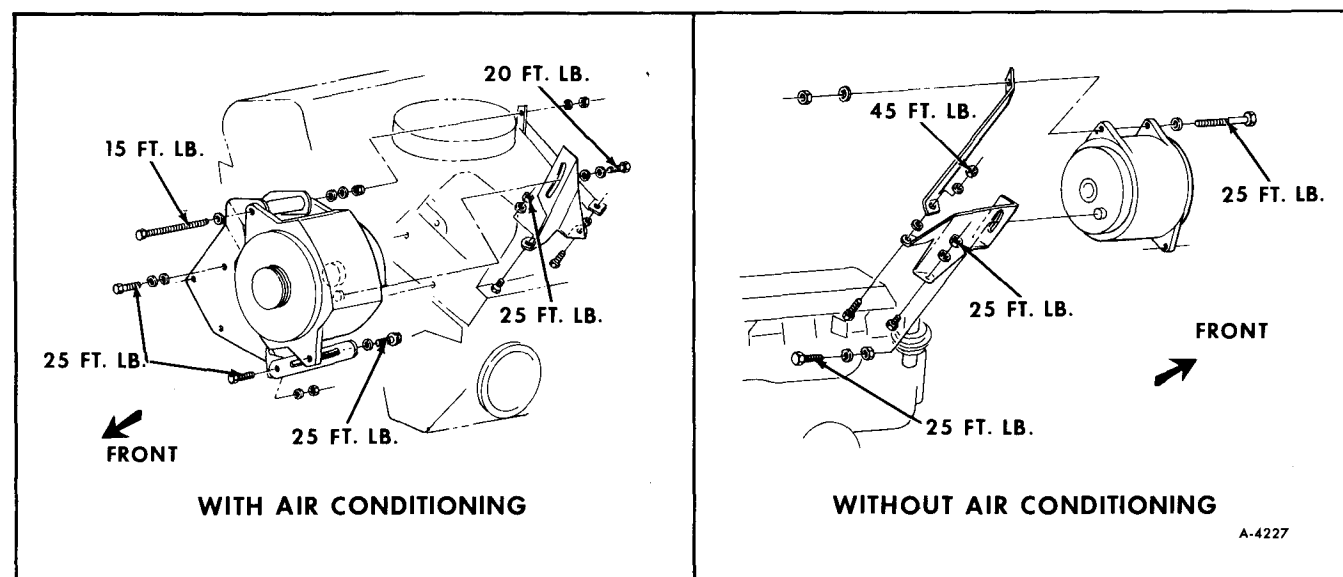

Figure 11—Generator Mounting
NOTE: Generator bracket removal is not required, however, generator mounting is shown in Figure 11.
13. Install generator mounting bracket, if removed. See Figure 11.